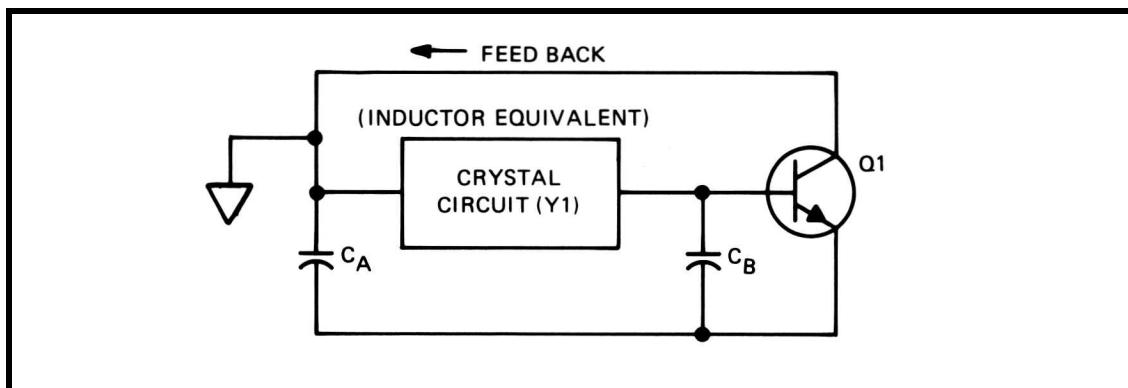
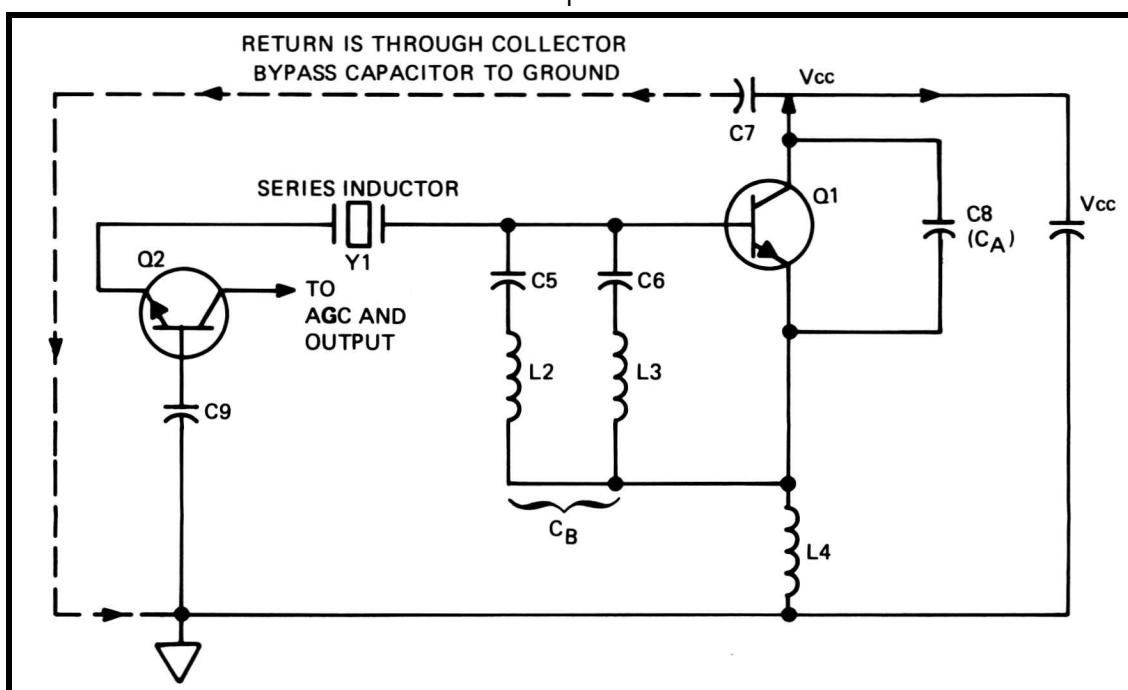
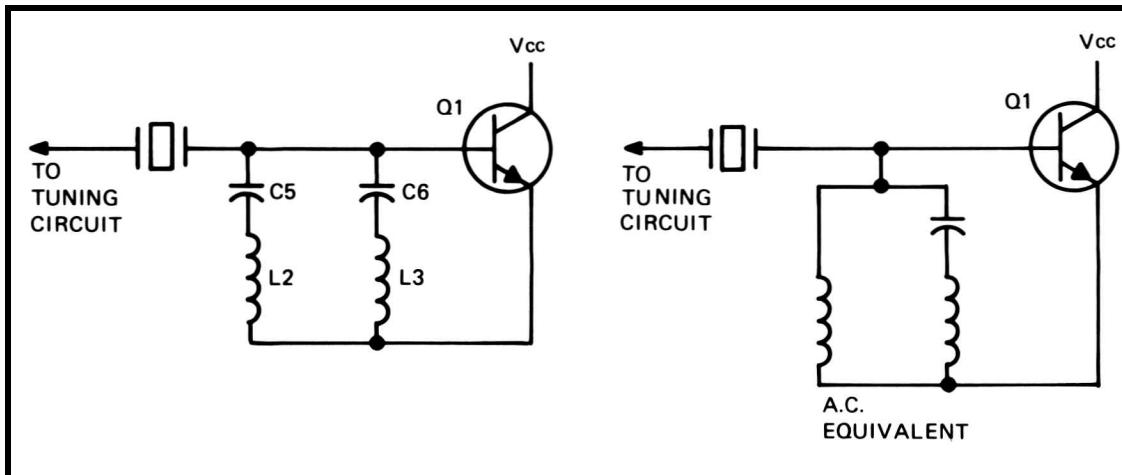

Figure 8-3A. Basic Colpitts- Type Oscillator
Figure 8-3B. Main Oscillator Schematic Design
Figure 8-4. Mode Suppression
- 8-14. The 10811A/B oscillator is a Colpitts-type crystal oscillator which uses the crystal as the series inductor. Figure 8-3A shows the basic block diagram of a Colpitts-type oscillator. Figure 8-3B shows the basic equivalent components of the oscillator.
- 8-15. Comparing Figure 8-3A and 8-3B, we find Y1 is the inductor, capacitor CA is C8 and CB is the combination of C5, L2, C6, and L3. C5 is a dc blocking capacitor. Its reactance is very low, so the combination of these components can be redrawn as in Figure 8-4. The crystal Y1 is a "third overtone" crystal and is operated at 10 MHz. To keep the circuit from oscillating at the crystal's fundamental, or at a different overtone, the mode suppression network of C5, L2, C6, L3 appears capacitive only at frequencies between 9 MHz and 10.5 MHz. Below and above this frequency range, the network appears inductive. This does not allow the proper phase shift around the loop and thus suppresses oscillations at all frequencies other than 10 MHz. It should be noted that any reactance in series with the crystal will cause a change in frequency.